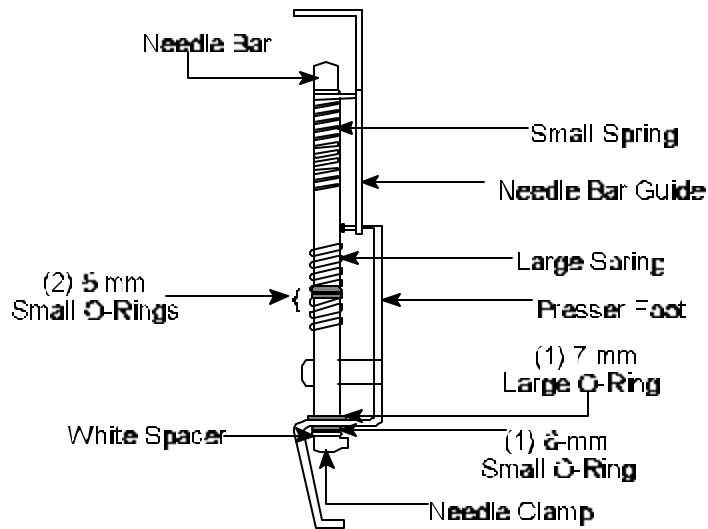

Figure 7
21. **Insert** Needle Clamp onto Needle Bar and align set screw with bottom hole then snug set screw. See Figure 7.